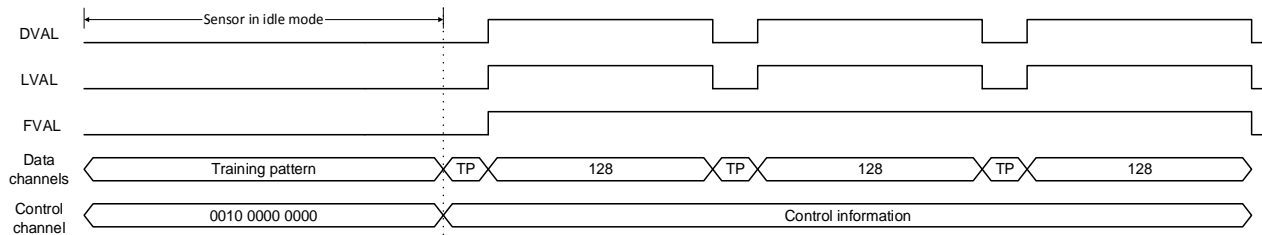

FIGURE 33 TRAINING PATTERN LOCATION IN THE DATA AND CONTROL CHANNELS
The control channel does not send a training pattern, because it is used to send control information at all time. Word alignment can be done on this channel when the sensor is idle (not exposing or sending image data). In this case all bits of the control word are zero, except for bit [9] (= 0010 0000 0000 or 512 decimal). Figure 33 shows the location of the training pattern (TP) on the data channels when the sensor is idle and reading out 3 rows. The default mode of 16 outputs is selected.